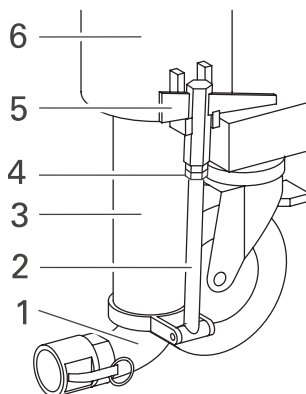

Fig. 14: Installing spiral pump
- Observe the installation instructions on the stator (fig. 14, 3), and insert rotor accordingly
- Hook the connecting rod (fig. 14, 2) onto one side of the pump mixing tube (fig. 14, 6)
- Place the stator with rotor (spiral pump) on the pump end piece (fig. 14, 1) without canting the rotor and stator
- Using the wedges (fig. 14, 5) tighten the spiral pump and the end piece; if the pump is not positioned firmly enough, loosen the counter nuts on the connection rods, tighten the tensioning nuts and re-secure with the counter nuts.